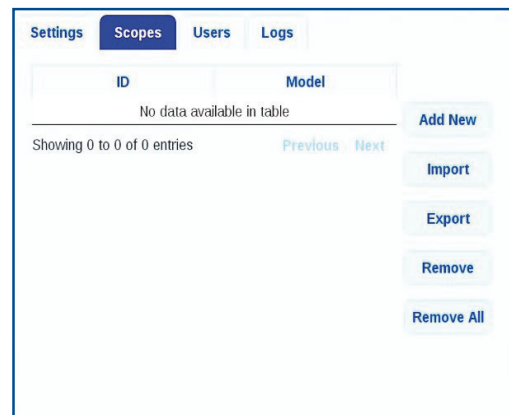

Fig. 51
3. Go to the **Scopes Tab** and press the Export button to export the Scopes List (Fig. 51).